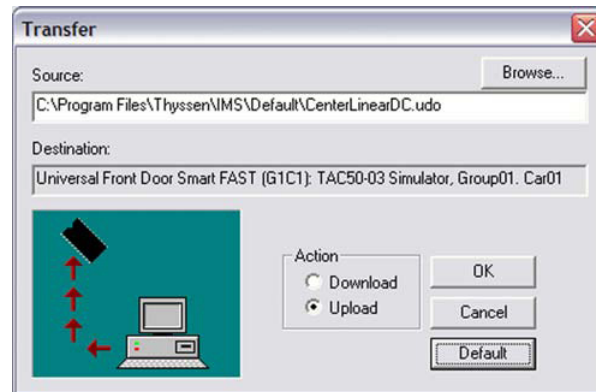

Figure 18 - Transfer Window
- In the Transfer window, click on the chip in the graphic, or select Upload to cause the arrows to point from the computer to the chip. See Figure 18.